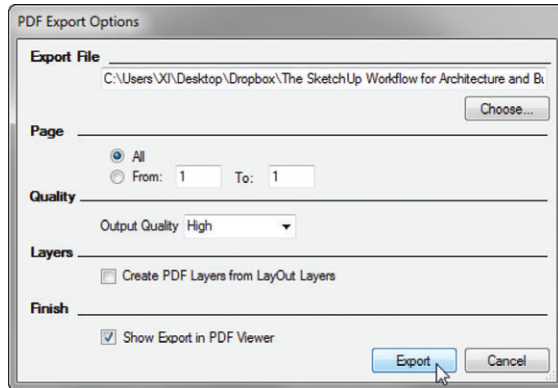

Figure 17.11 The Export Option settings
3. The PDF options dialog opens automatically. Adjust the settings as shown in Figure 17.11.